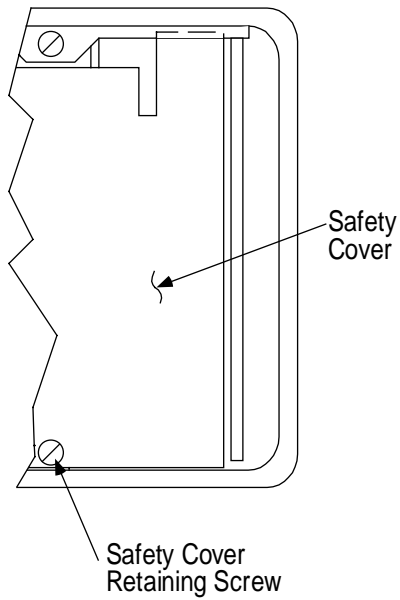

Figure 1
3. Remove safety cover to expose circuitry (see Figure 1).
15. Replace safety cover (slip right hand side of cover under the upper circuit card retainer bracket) (see Figure 1).